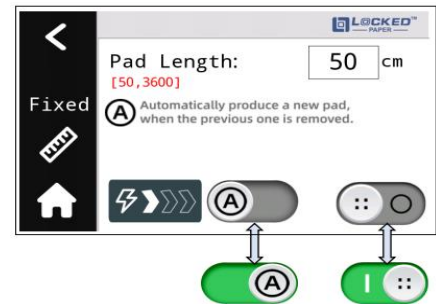

Figure 2
- 1) Tap  in the homepage to enter this mode. (Figure 2).